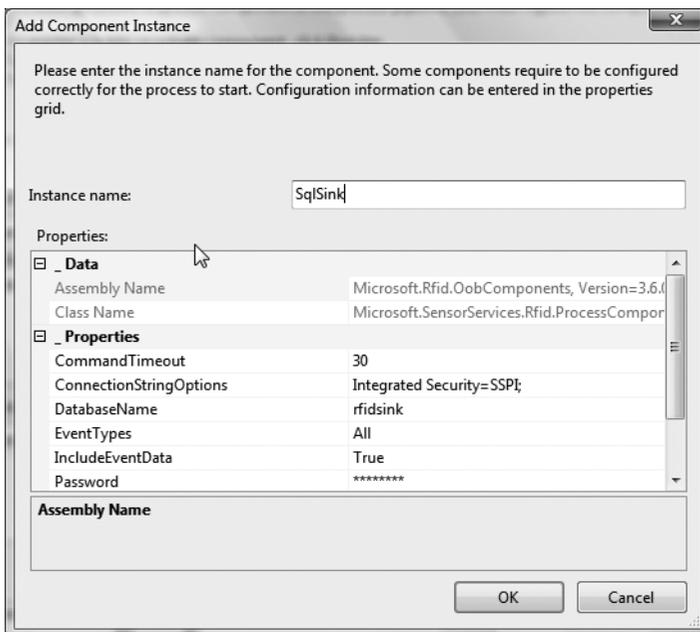

Figure 3-14. *Configuring the event handler*
- From the Add Component Instance dialog, as shown in Figure 3-14, type in an instance name of **SqlSink**, and click OK.